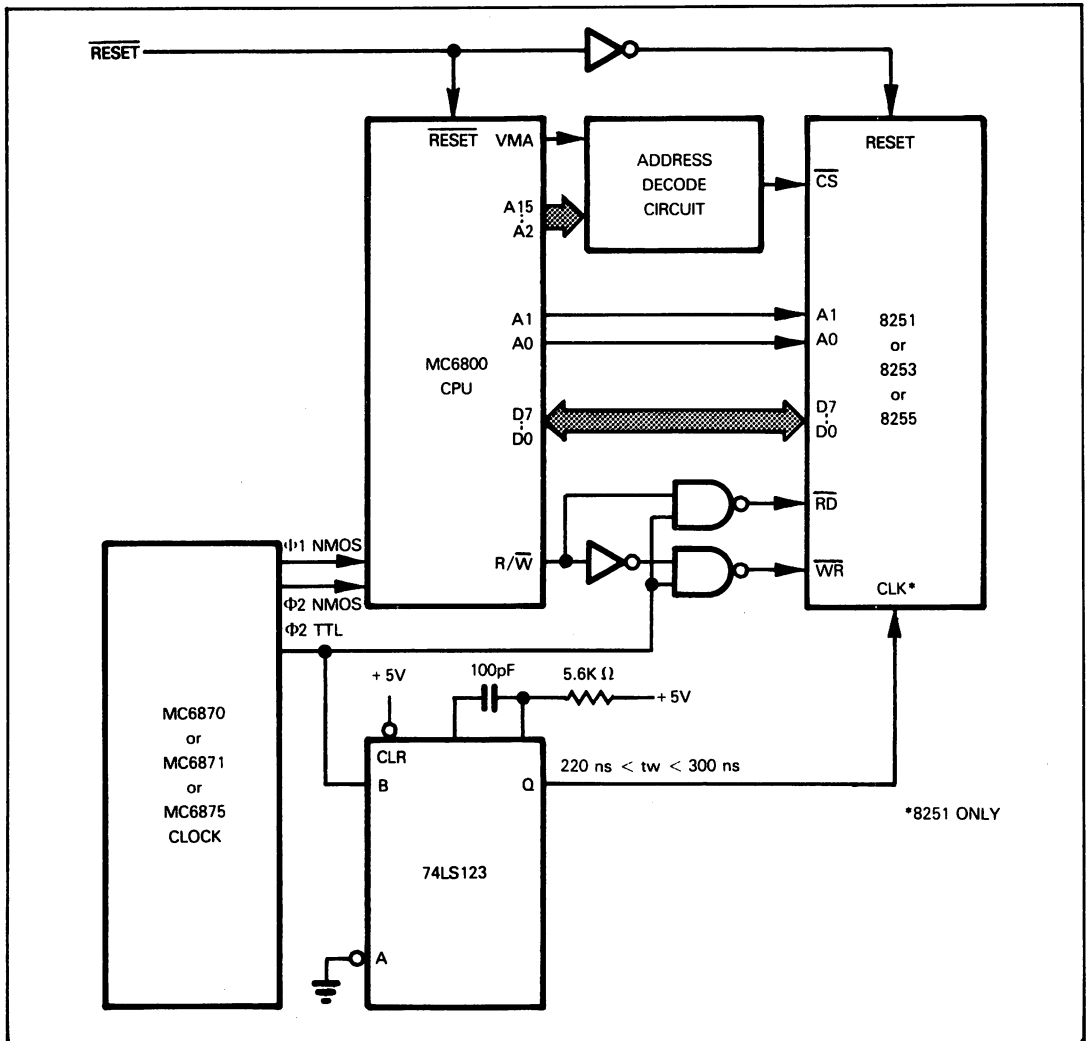
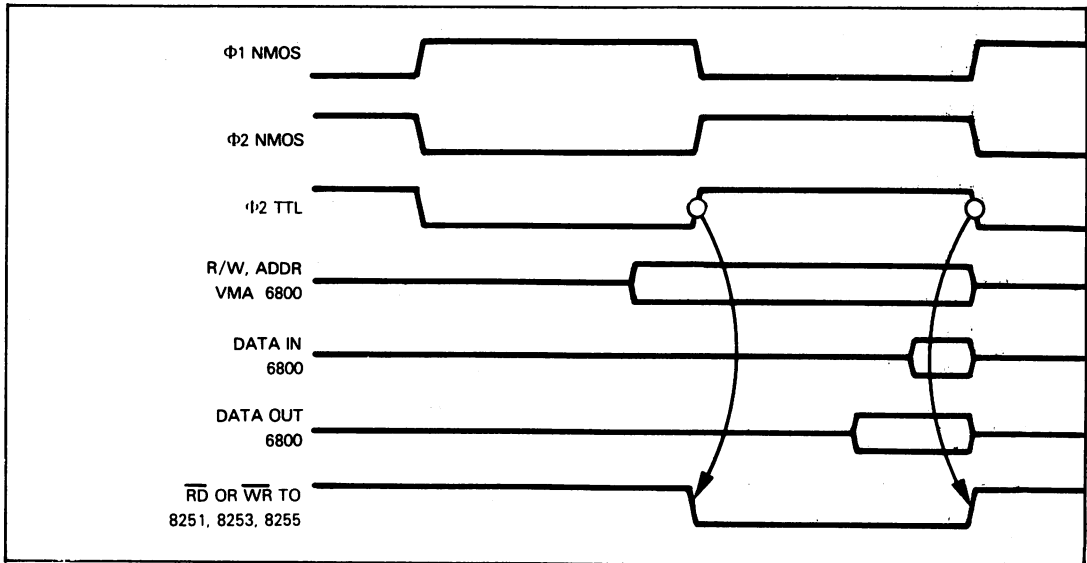

Figure 9-11. Use of 8080A Support Devices With MC6800 CPU
Figure 9-12. Timing for 8080A Support Devices Used With an MC6800 CPU
**Figure 9-11 illustrates the interface for an 8251, an 8253 or an 8255 device connected to an MC6800 CPU. Figure 9-12 provides the timing for 8080A support devices used with an MC6800 CPU.**